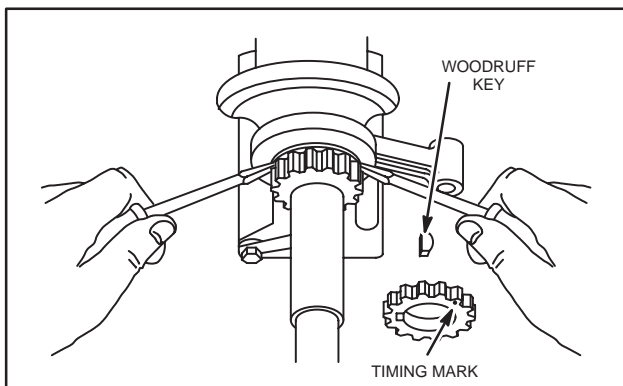

Fig. 189 – REMOVING CRANKSHAFT GEAR
**NOTE:** Save timing gear key on Model Series 171700. On current production Model Series 252700, 253700, 255700, 256700, and all 280000 engines the woodruff key can be removed, if required, Fig. 189.